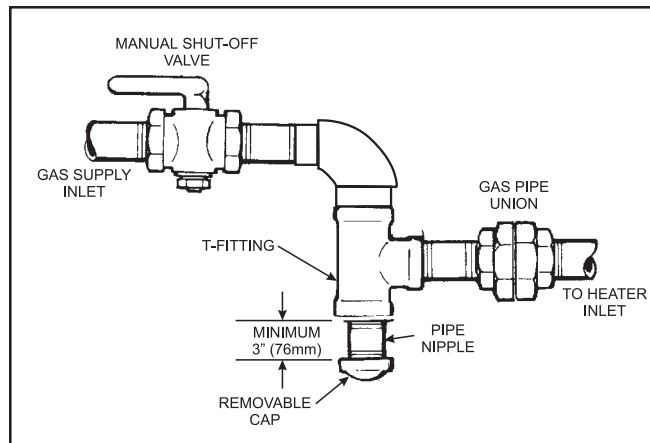

Figure 6. The proper design for a sediment trap / drip leg
4. Install a sediment trap (drip leg) ahead of the gas controls (see Figure 6). Fit the trap with a threaded cap which can be removed for cleaning.